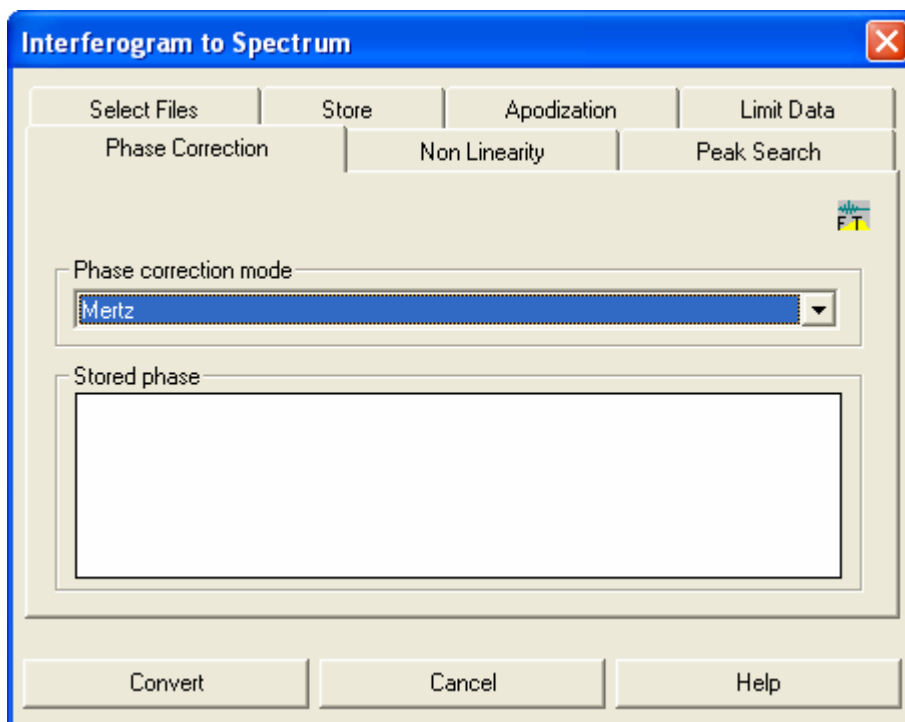

Fig. 24: “Interferogram to Spectrum” dialog window - “Non Linearity” page
- On the “Phase Correction” page, we recommend to choose the “Mertz” phase correction (fig. 24).